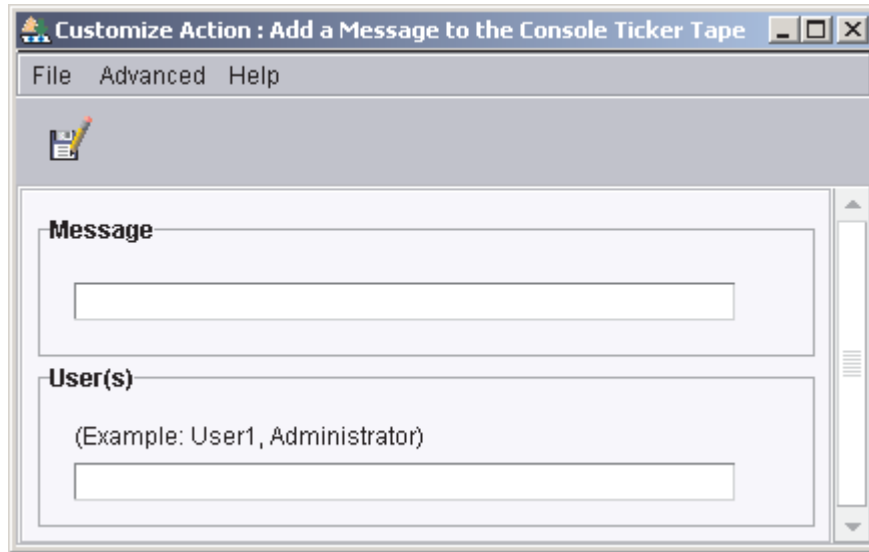

Figure 13. Customize Action window for ticker-tape alert
9. In the Actions pane of the Event Action Plan Builder, double-click an event action type. The Customize Action window opens. The example shown in Figure 13 is for ticker-tape alerts.